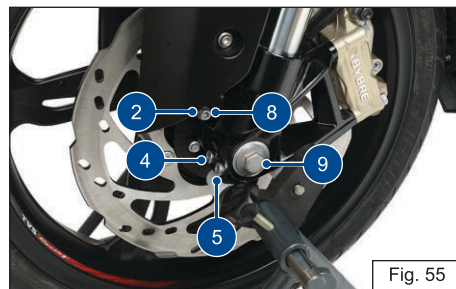

Fig. 55
- ♦ Remove the locking screw (3) (ref. Fig. 55).
- ♦ Loosen the right side clamping screws (4) and (5).
- ♦ Slightly press the quick-release axle (6) inward for a better grip on the right side.
- ◆ Mount the front wheel stand again and install the locking screw (3) with specified torque (ref. Fig. 55).